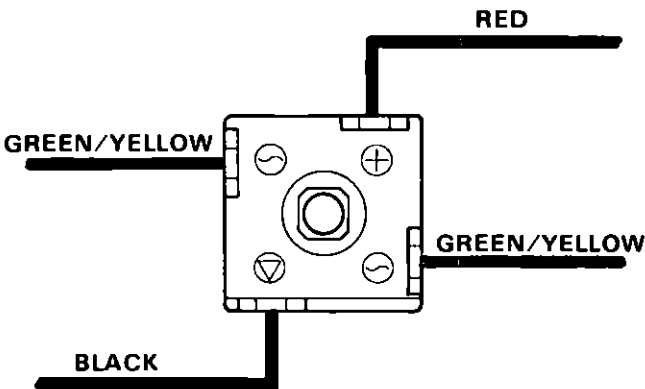

Figure 25 Installing Rectifier
- 1 Connect lead wires to rectifier Figure 25